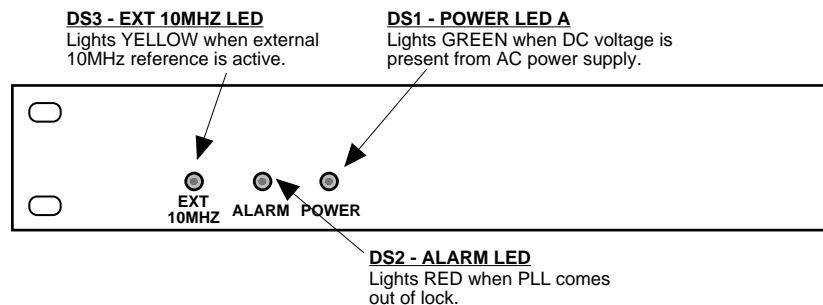

FIGURE 2.2 2116-14T11 Front Panel Controls and Indicators
Figure 2.2 shows the front panel indicators.
4. Be sure DS1 (green, DC Power) is on and DS2 (red, Alarm) is off (Figure 2.2).
6. If EXT is selected or AUTO is selected and there is a 10MHz, 3 dBm signal at J2, check that DS3 (yellow, Ext 10MHZ) is on (Figure 2.2).